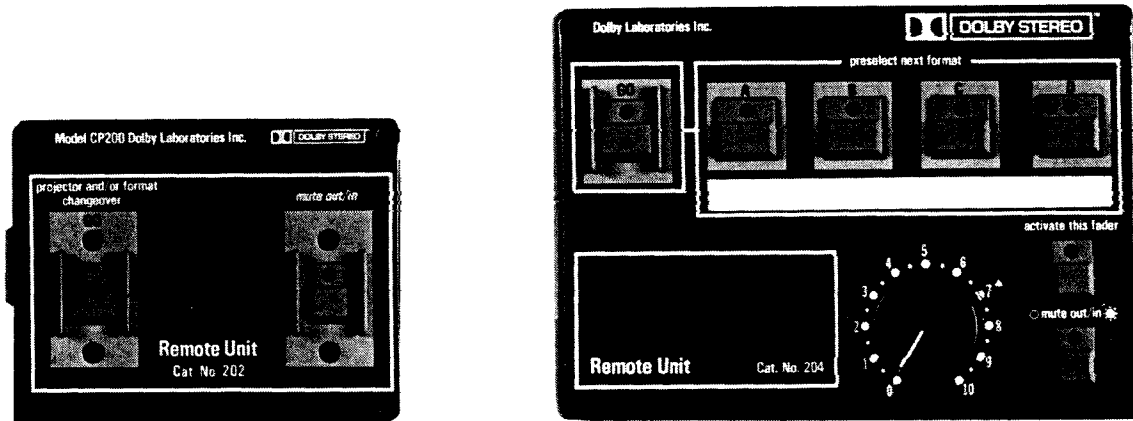

Fig. 2.19 Cat. Nos. 202 and 204 Remote Control Units
- (a) Three types of remote control boxes are available as options, two of which are shown in Figure 2.19. The Cat. No. 202 has a mute in-out push button (which duplicates the similar button on the control unit (8)) and a 'GO' push button which activates the particular box and projector and, (if a format pre-selection has been made on the main control unit), a format change simultaneously. A remote box is placed by each projector.
- (d) For a single-station remote fader such as an auditorium fader or (in the case of a dubbing studio) a fader on the console, a Cat. No. 122 can be used. This fader consists solely of a fader control and a 'fader active' indicator. For operation, the switch on the Fader/Logic card (46) must be in the 'auditorium fader' position.